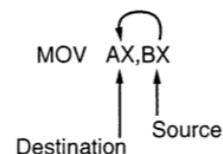

Fig. 2.4
Fig. 2.4 illustrates the MOV instruction and defines the direction of data flow. The source is to the right and the destination is to the left. The MOV AX, BX instruction transfers the word contents of the source register (BX) into the destination register (AX).